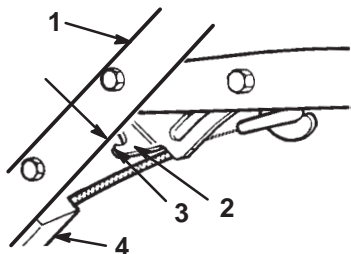

Figure 11
1. Move the control bar toward the handle until you remove the slack in the cable (Fig. 11).